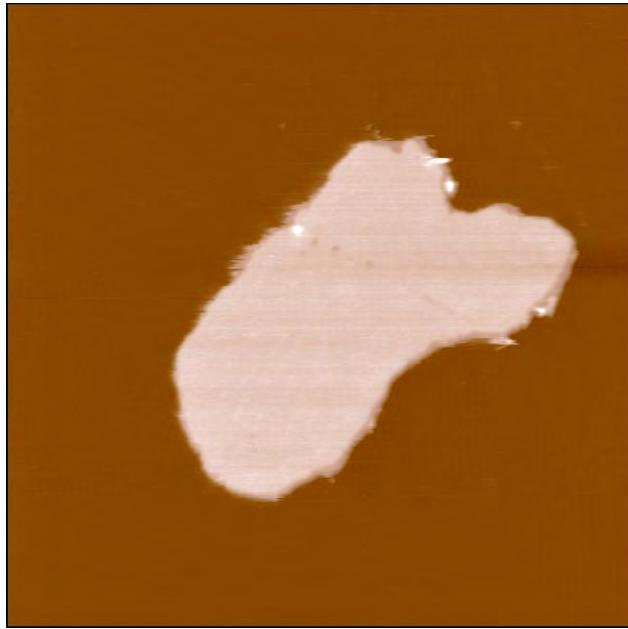

Figure 8.10 Purple Membrane Patch, $1.6\mu\text{m}$ scan size
- 2.** Select an initial scan size of 5-10 μm to locate a flat purple membrane patch. (Figure 8.10)